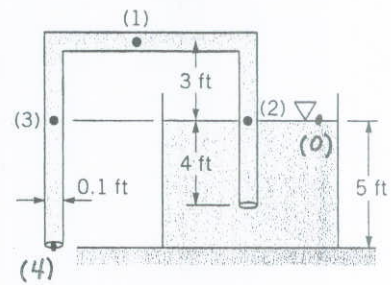

FIGURE P3.78
3.78 Water is siphoned from the tank shown in Fig. P3.78. Determine the flowrate from the tank and the pressures at points (1), (2), and (3) if viscous effects are negligible.